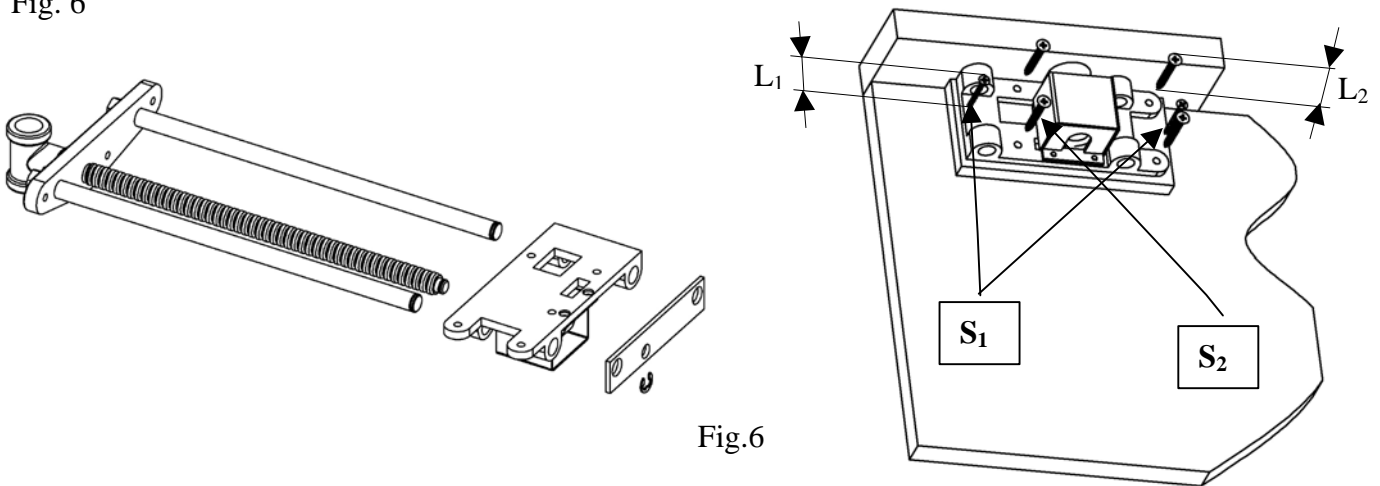

Fig.6
b) Now the vice can be installed on the workbench. First it must be dismantled into 2 parts by removing the retaining ring (9) and brace (8) and turning the spindle clockwise (CCW) until the base plate (1) exits the guide rods (6).
If a spacer is used, it must now be fixed to the bottom side of the workbench and pushed against the additional rear jaw or workbench collar. For easier installation, you can lightly fix it with 2 wood screws S_1 $\varnothing 4-5\text{mm}$ (0,16"-0,2"), length $L_1 = E$ (spacer thickness) + 25mm (1") and then attach to it the base plate (1) of vice HVQ, into pre-drilled openings of the base plate itself. Lightly tighten the screws S_2 to enable the front jaw to fit correctly and the base plate (1) to meet with the rear jaw or workbench collar, Fig. 6